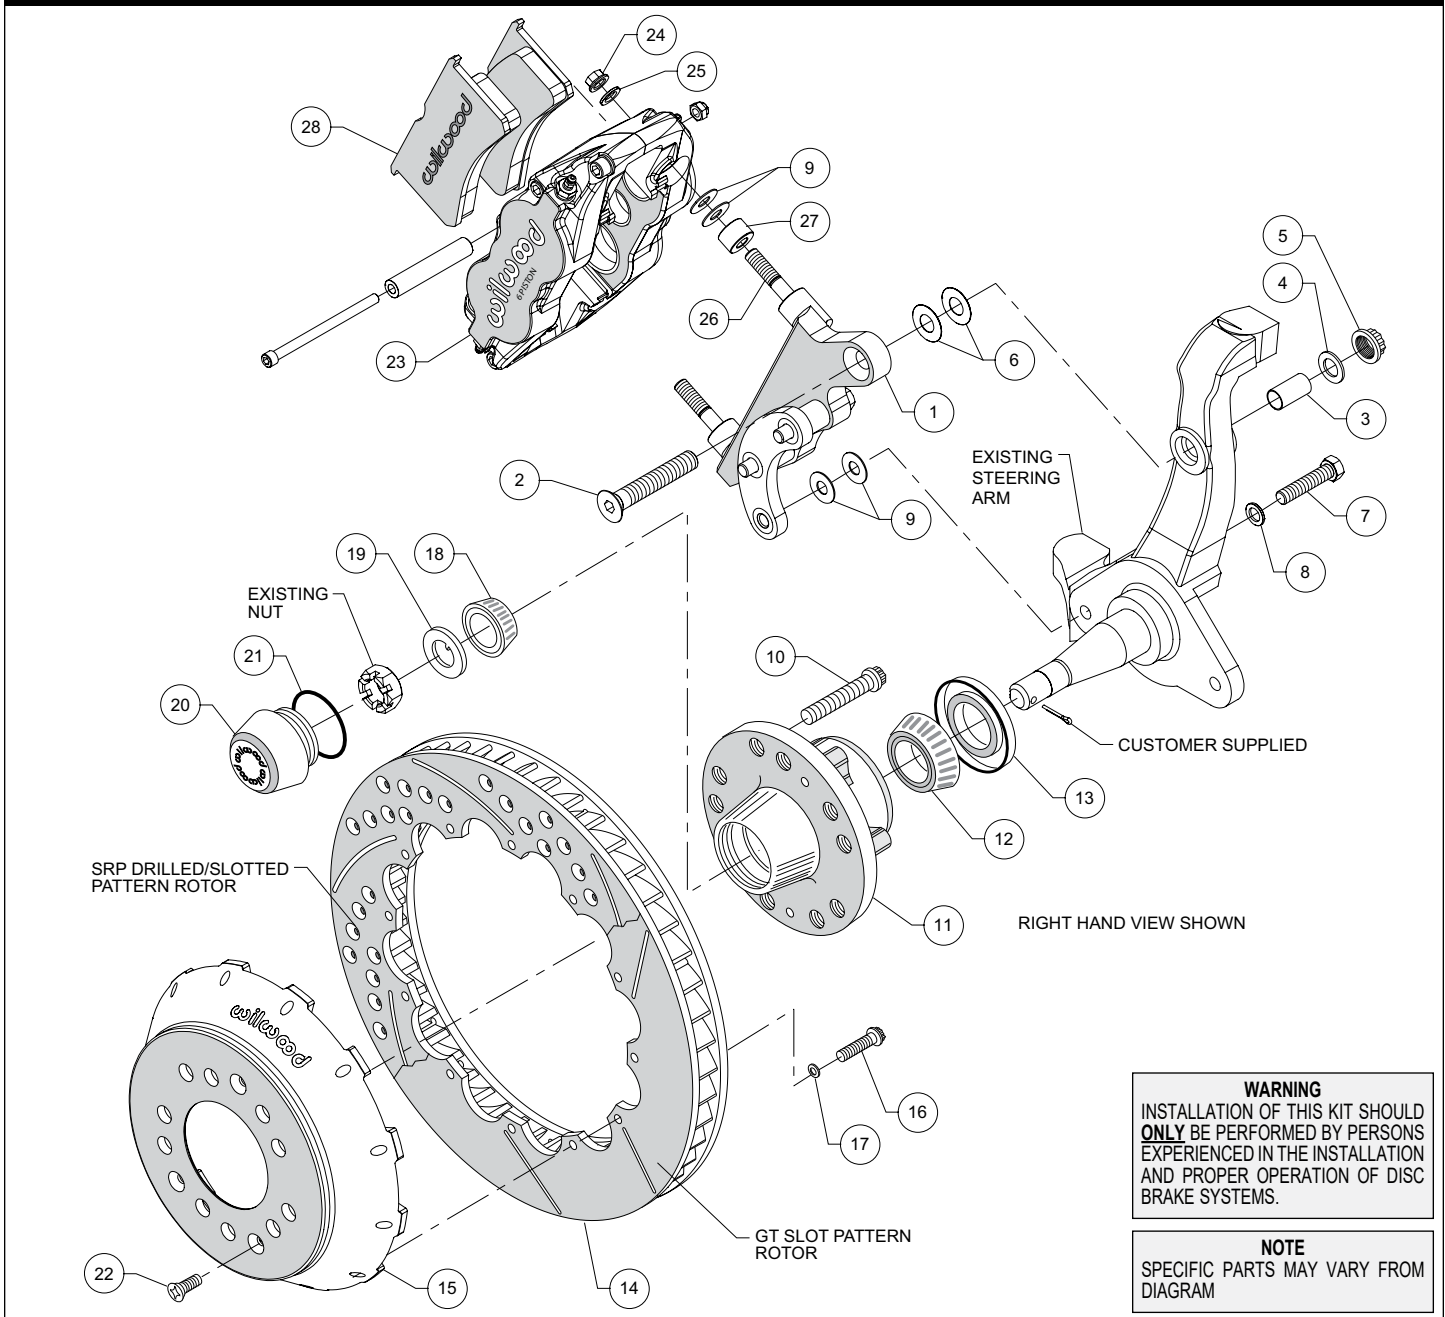
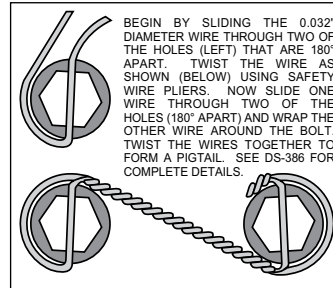
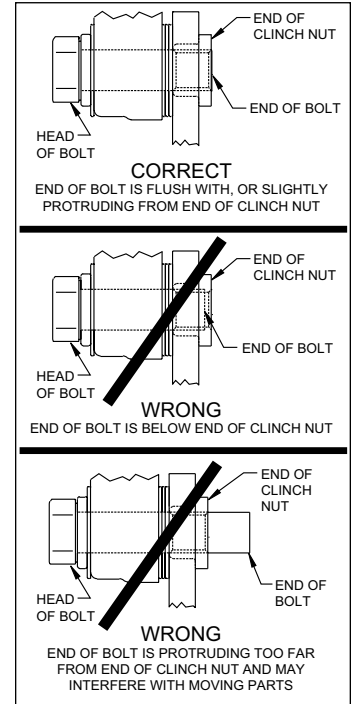

Figure 1. Typical Installation Configuration
Figure 3. Safety Wire Diagram
Figure 4. Clinch Nut Engagement Diagram
NOTE: Numbers in parenthesis refer to the parts list and Figure 1 on the preceding pages.
CAUTION: All mounting bolts must fully engage clinch nuts. Be sure to check that all bolts are either flush or protruding through flanged side of clinch nut after shimming, Figure 4.
•The caliper bracket (1) should initially be installed with clean, dry threads on the mounting bolts. The bracket has been assembled at the factory for alignment purposes. Loosen the two bolts that secure the brackets together so that the bolts are hand tight only. This will enable the bracket assembly to be adjusted to accommodate various spindle tolerances during assembly. Insert sleeve (3) into top mounting hole on the spindle, Figure 1. Orient the bracket as shown in Figure 1 and install using bolt (2), washer (4), and locknut (5), in the upper hole, as shown in Figure 1 and Photo 1. Initially use two .032" thick shims (6) on the upper bolt between the bracket and spindle, Figure 1. Install bolt (7) and washer (8) in the lower hole, Figure 1. Initially use two .035" thick shims (9) between the bracket and spindle face. Temporarily tighten the mounting bolts, followed by the two bracket-to-bracket bolts. **NOTE:** The bracket must fit squarely against the mounting points on the spindle. Inspect for interference from casting irregularities, machining ridges, burrs, etc. Later, after the bracket and caliper alignment has been checked, the bolts will be secured using red *Loctite*® 271.
•Check that the bracket (1) is aligned parallel to the rotor (14), Photo 2, by assembling and installing the hub, hat, and rotor per the steps below. If not, parallel adjust by adding or subtracting shims (9) on the lower bolt between the spindle and bracket, Figure 1, Photo 2.
•Install wheel studs (10) into the hub (11), Photo 3. Torque to 77 ft-lb. **NOTE:** There are two five lug patterns in the hub (5 x 4.50 and 5 x 4.75). Ensure the correct hub stud pattern is being used to fit the wheel application.
•Pack the large inner bearing cone (12) with high temperature disc brake bearing grease (available from your local auto parts store) and install into the backside of the hub (11), Photo 4.
- Install the grease seal (13) by pressing into the backside of the hub (11), flush with the end of the hub, Photo 4.
- Orient the rotor (14) and the hat (15) as shown in Figure 1 and Photo 5. Attach rotor to hat using bolts (16) and washers (17). Apply red *Loctite*® 271 to the bolt threads and torque to 155 **in-lb** using a criss-cross pattern. For an added measure of security, the bolts may be safety wired using standard 0.032 inch diameter stainless steel safety wire as shown in Figure 3. Refer to Wilwood's data sheet DS-386 (available at www.wilwood.com/Pdf/DataSheets/ds386.pdf) for complete safety wire installation instructions.
- Pack the small outer bearing cone (18) with high temperature disc brake bearing grease and install into hub (11). Slide the hub assembly onto the spindle. Secure using spindle washer (19) and OEM spindle nut, Photo 6. Adjust bearings per OEM specifications. Install saved OEM nut lock (if any) and a new cotter pin (not included).
- Screw dust cap (20) into hub (11), Photo 7. Friction created by the o-ring (21) on the dust cap keeps it from unscrewing. **NOTE:** *The O.D. of the existing OEM spindle washer may be larger than the I.D. of the dust cap not allowing it to seat against the hub face. Therefore, use the spindle washer (19) supplied with the kit instead of the OEM washer.*
- Slide the hat/rotor assembly (14/15) onto the hub (11) taking care to align the small countersunk holes in the hat with the small threaded holes in the hub. **NOTE:** *The hat must fit flush against the hub face or excessive rotor run out may result.* Install three flat head screws (22) through the small holes in the hat, Photo 7, and torque to 85 **in-lb**.
- NOTE:** *This kit contains distinct right and left hand calipers that must be mounted in a specific direction, as described below.* Initially place one spacer (27), and two .035" thick shims (9) on each stud (26) between the caliper and the bracket, as shown in Figure 1 and Photo 8. Mount the caliper (23) onto the bracket (1) using lock nuts (24) and washers (25), Figure 1. Ensure that the caliper is mounted so the largest pistons are at the rotor exit end of the caliper, in relation to the direction of rotor rotation. Temporarily tighten the lock nuts and view the rotor through the top opening of the caliper. The rotor should be centered in the caliper, Photo 9. If not, adjust by adding or subtracting shims (6 upper bolt, and 9 lower bolt) between the spindle and the caliper bracket. Always add or subtract the same amount of shims on each of the two mounting bolts to keep the bracket parallel to the rotor. **NOTE:** *The end of the lower bolt must be flush with, or slightly protruding from, the head of the clinch nut, as shown in Figure 4.* If necessary place spare shims between washer (8) and spindle to achieve the proper clinch nut engagement.